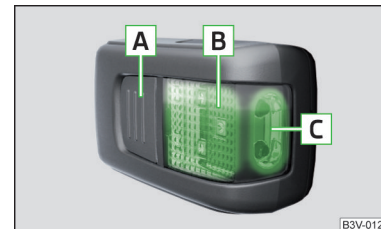

Fig. 140
Description of the light » Fig. 140
- To **switch on** the removed light, press button **A** » Fig. 140. Pressing the light again will **switch it off**.
If the light is not switched off and is correctly inserted in the mount, the LED diodes in the front part of the light **C** » Fig. 140 are automatically switched off.